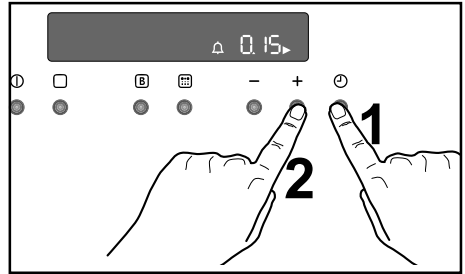

Fig. 7
- 1) Press button  to select the Minute Minder function. The relevant  symbol will flash and the control panel will display "0.00". (Fig. 7)